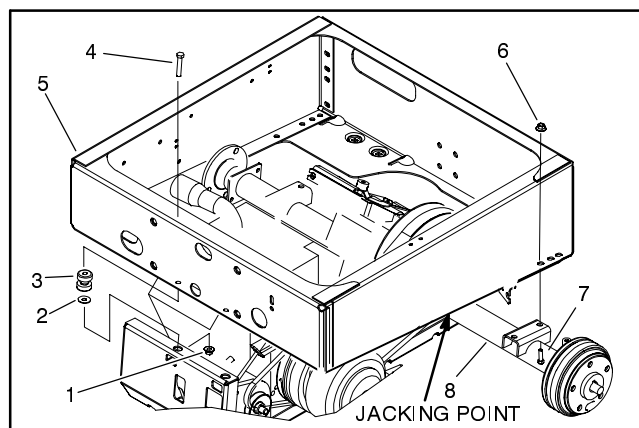

Figure 19
6. Jack up both sides of the frame (at the jacking point indicated) enough to remove rear wheels (Fig. 19).
9. Remove both flange lock nuts, flat washers, isolation mounts, and cap screws securing the engine mount to the rear frame (Fig. 19).
12. Remove four flange lock nuts and hex head flange screws securing the transaxle to the rear frame. Remove transaxle from the rear of the vehicle (Fig. 19).
1. Position transaxle and driven clutch to the rear frame. Secure transaxle to the rear frame with four hex head flange screws and flange lock nuts (Fig. 19).
4. Secure engine mount to the rear frame as follows (Fig. 19 and 21):